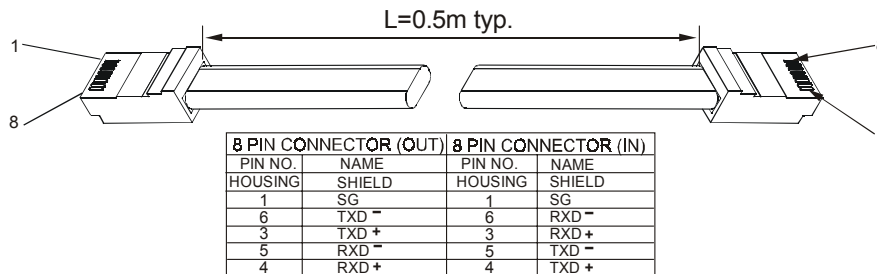

Fig.7-6:Serial link cable with RJ-45 shielded connectors (P/N: GEN/RJ-45)
- Using the Linking cable supplied with each unit (refer to Fig. 7-6), connect each unit OUT connector to the next unit IN connector.